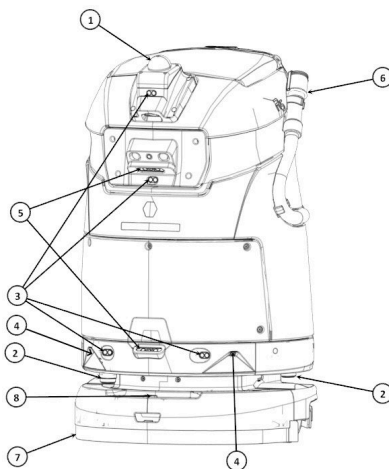

Figure 1
1. 3D lidar (Figure 1)
2. 2D lidar (Figure 1)
3. Sonars (Figure 1)
4. Time-of-flight sensor (Figure 1)
5. Depth camera (Figure 1)
6. Recovery tank drain hose (Figure 1)
7. Front skirt (Figure 1)
8. Release latch for cleaning head cover (Figure 1)